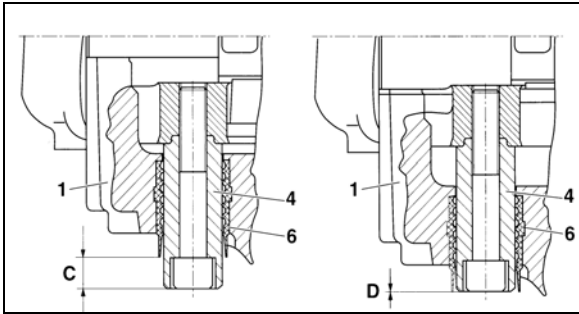

FIGURE 30: BRAKE PAD CHECK 12117
The pad thickness can be seen but would require removal of the tire and rim. An indicator of the pad wear condition is available by inspecting the floating pin location in relation to the rubber bushing as shown in figure 30. When pads are in new thickness condition, the pin will be exposed (C) 19 mm (3/4"). When the pads are worn to replacement conditions, the pin will be nearly flush to the bushing (D) or within 1 mm (3/64") of the edge of the rubber bushing.